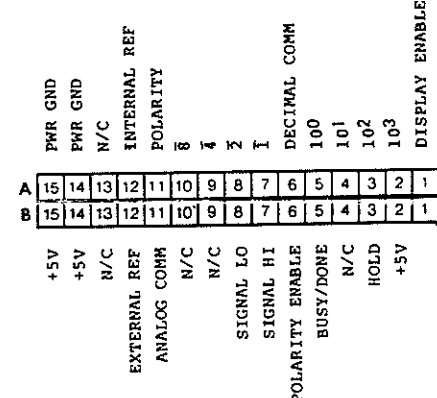

Figure 4. Connector Pin Information
- Fit mounting clips (2) into slots at sides of instrument. Foot of clip should face forward.
- Thread screws (2) into clips and tighten screws against rear surface of panel.
- Install a keying tab in connector to mate with meter between contacts 1 and 2. A connector with keying tab installed is available from your distributor; NLS part number is 39-282. See figure 4 for connector pin information.
**BINARY CODED DECIMAL (BCD) OUTPUTS.** The 1, 2, 4, 8 multiplexed BCD outputs are available on connector pins A7, A8, A9 and A10 respectively. When digit 4 enable (pin A2) goes to a "high" logic level (zero), the 1, 2, 4 and 8 BCD outputs represent digit 4, the most significant digit. When digit 3 enable (pin A3) goes "high", the BCD outputs represent digit 3, and so on, to the least significant digit. For connector pin information refer to figure 4. Digits are scanned from most significant to least significant digit. Each digit goes "low" for approximately 1-2/3 milliseconds, and there is no gap between successive digit enables except when the meter goes into overload. For the BCD outputs, "high" = true = +5 volts.